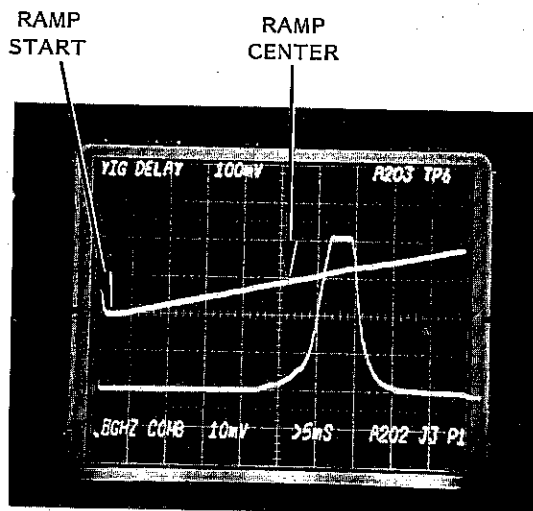

FIGURE 6-6
(3) Set time base to variable (approx. 5 ms/div) and externally trigger oscilloscope from A203P1 pin 12 (DAC 2 ENABLE). Adjust oscilloscope time base so DAC 2 ramp occupies the full screen.
(4) Adjust A202R16 so the 50% point of the leading edge of the video pulse occurs one division to the right of center of the DAC 2 ramp as shown in Figure 6-6. Note that the point marked "Ramp Start" is 3 ms after DAC 2 ENABLE, and that the point marked "Ramp Center" is *not* the center of of the display.